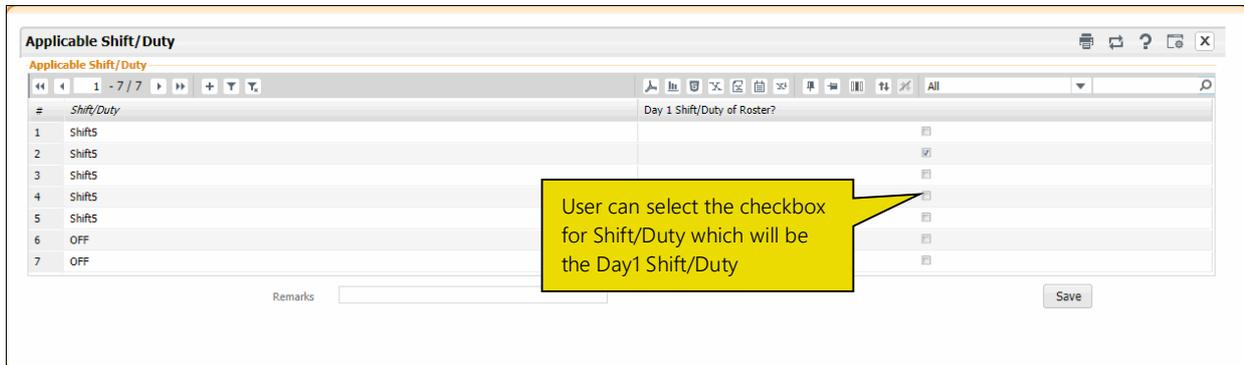

Figure 2.6 Applicable Shift/Duty pop-up
1. Select the hyperlinked **Day 1 Shift/Duty** in the Employee Details multiline of the **Create/Edit Roster** screen. The Applicable Shift/Duty pop-up appears. See Figure 2.6.